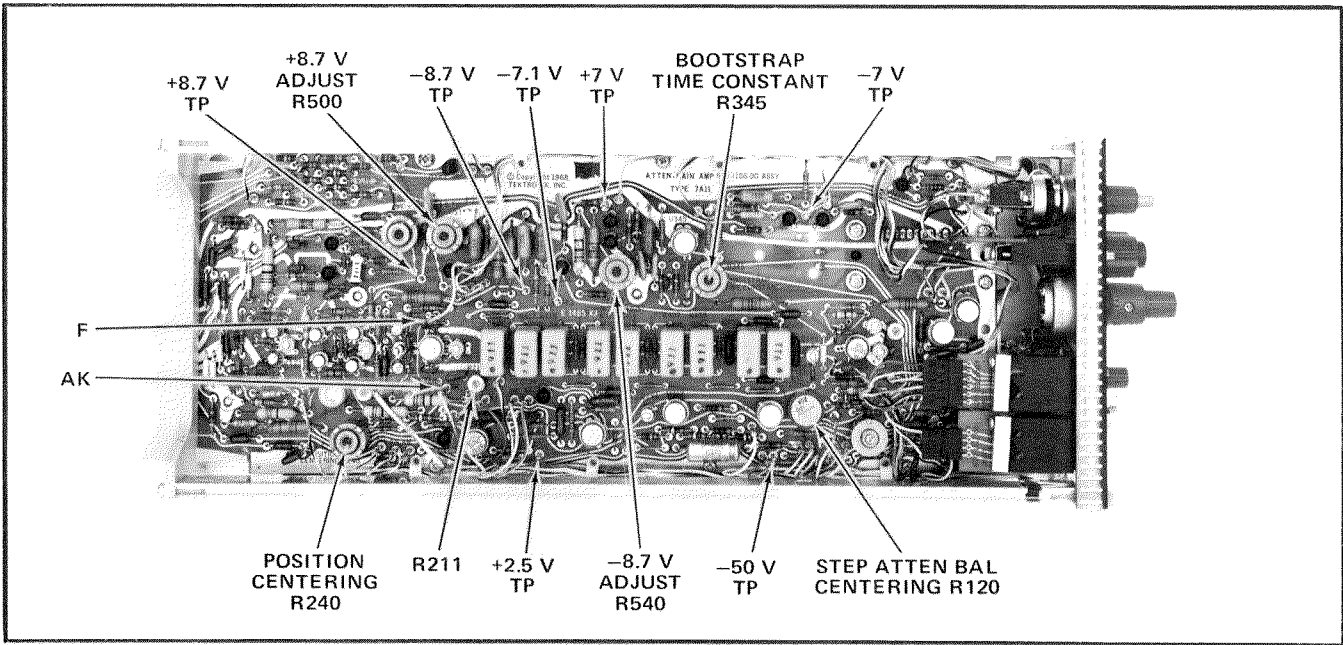
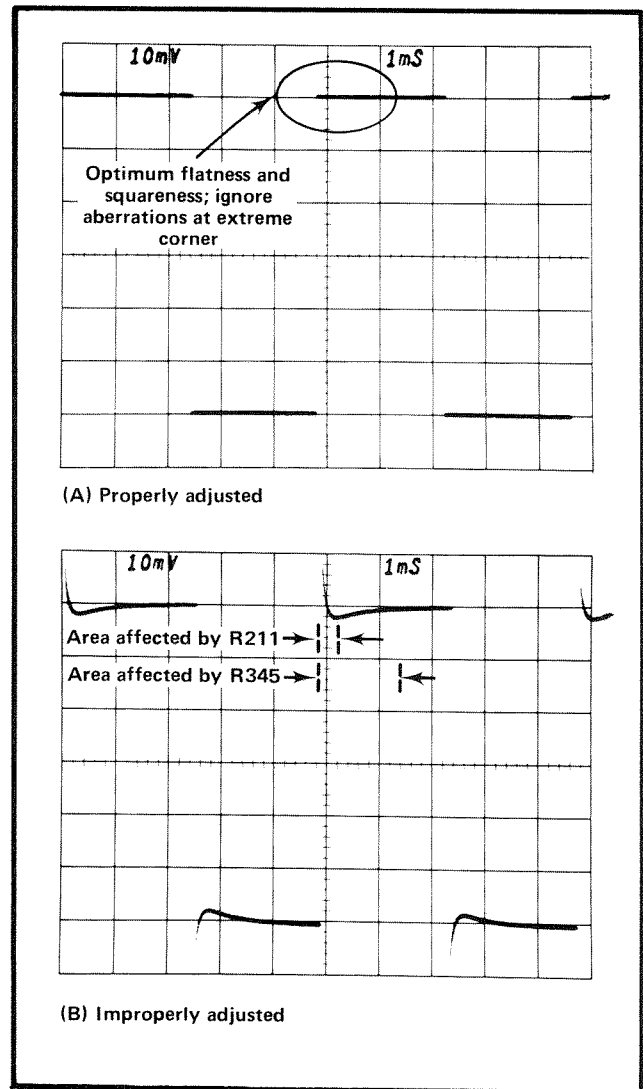

Fig. 5-4. Test point and adjustment locations for steps 1 through 4.
Fig. 5-5. Mid-frequency response waveforms, step 4.
b. CHECK—Voltages. Using the DC Voltmeter (item 3), check the voltages listed in Table 5-3. Test points are shown in Fig. 5-4.
c. ADJUST—+8.7 V ADJUST, R500, and -8.7 V ADJUST, R540, (Fig. 5-4) as necessary to have the applicable power supplies within allowable values. Note that R540 also controls the -7.1 V supply. The +7 V, -7 V, and +2.5 V supplies are not adjustable.
(1) Set the STEP ATTEN BAL to midrange and pull out on the Oscilloscope Beam Finder knob.
(2) Set the 7A11 POSITION control to midrange. Note the trace position.
(3) Change the POLARITY selection and again note the trace position.
(4) ADJUST—STEP ATTEN BAL CENTERING, R120 (Fig. 5-4) as necessary to set the trace halfway between the two observed positions.
(5) Alternately select +UP and INVERT Polarity and adjust ATTEN BAL CENTERING R120 (Fig. 5-4) as necessary to obtain minimum trace shift.
(6) Using the 7A11 POSITION control, set the trace to graticule center.
(7) Return the Beam Finder switch to normal by pushing in and releasing it.
(8) Alternately select +UP and INVERT Polarity and adjust ATTEN BAL CENTERING R120 (Fig. 5-4) as necessary to obtain minimum trace shift.
(9) Select + UP Polarity at the 7A11.
(1) Disconnect the connectors from terminals "F" and "AK" (Fig. 5-4).
(2) ADJUST—POSITION CENTERING R240 (Fig. 5-4) to move trace to graticule center.
(3) Reconnect the wires to terminals F and AK.
(4) Using the front-panel POSITION control, set trace to graticule center.
(5) CHECK—knob index should be within approximately 10° of top-center.
(6) ADJUST—knob to top center (loosen set screw) with trace at graticule center.
(7) CHECK—knob should be approximately centered in its stop-to-stop travel range.
b. Connect the following components to the Fast Rise + Output of the Type 106 Square Wave Generator (item 4) in the sequence given: 5X GR Attenuator (item 15), 50 Ω Termination/Adapter (item 12), 7A11 Probe.
e. Check that the Time Base sweep rate is at 1 ms/division and adjust the Time Base Triggering controls to obtain a triggered display as in Fig. 5-5(A).
f. CHECK—Mid-frequency response. The displayed top-left corners should be square with optimum flat top as in Fig. 5-5(A). Overshoot, rounding and tilt should not exceed .05 division peak to peak.
g. (Calibration Procedure only.) ADJUST—R211 and R345 (Fig. 5-4) for optimum square corner and flatness. Rounding, overshoot and tilt should not exceed .05 division peak to peak. Use Fig. 5-5 as a reference. (Observing the display at 5 ms/division may aid in performing the adjustment.)